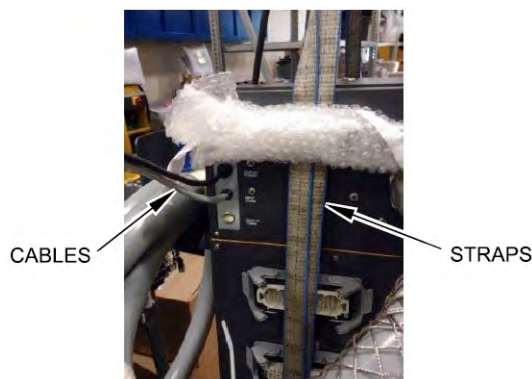

Figure 2-4 Cable Check
- e. Make sure that no ASC cables are caught between the ASC and the webbed straps. Refer to Figure 2-4.